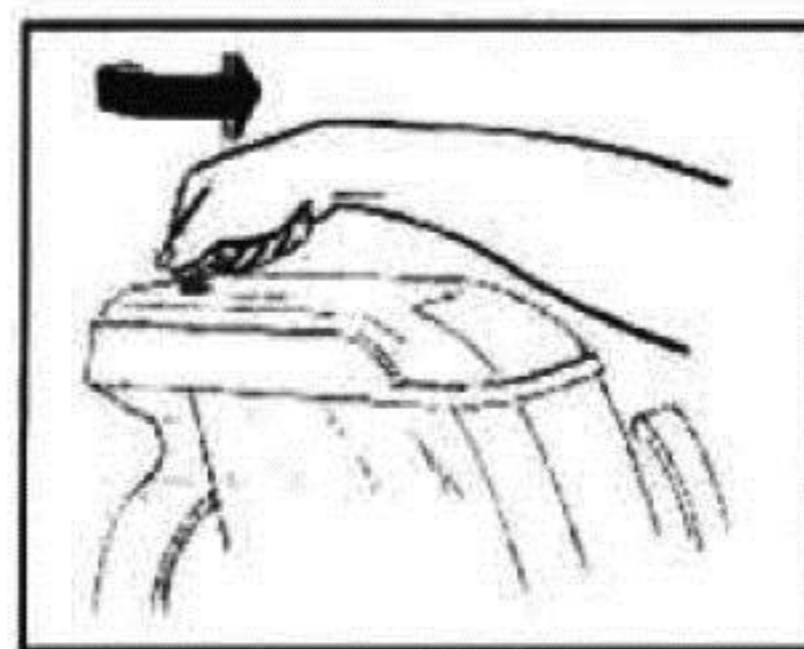
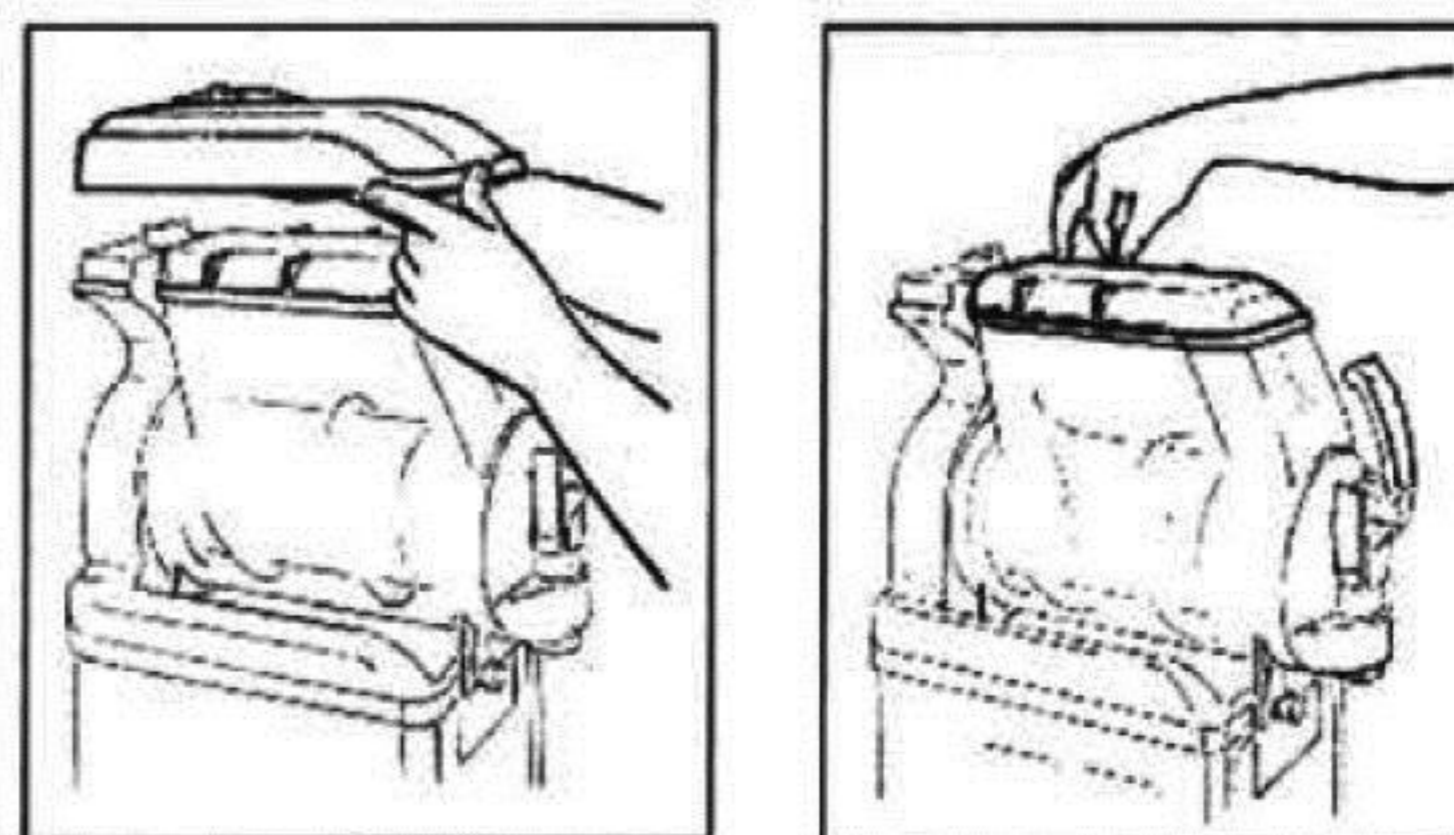

fig.23
fig.24
- After unlocking the main cover with its key (fig.23), remove the main cover and the secondary one under it (fig.24).